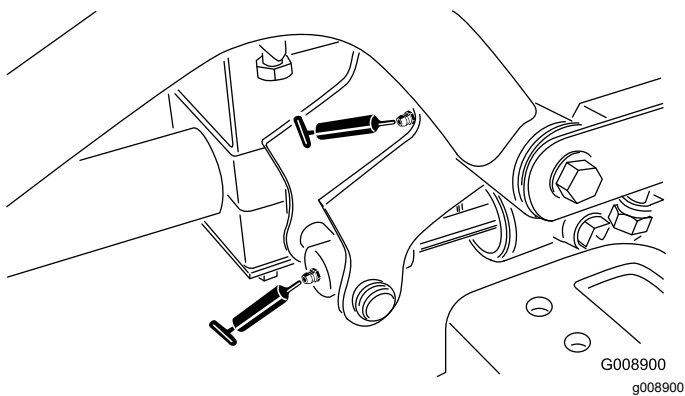

**Figure 39**
- 2 left, front lift-arm pivots and lift cylinder (Figure 39)